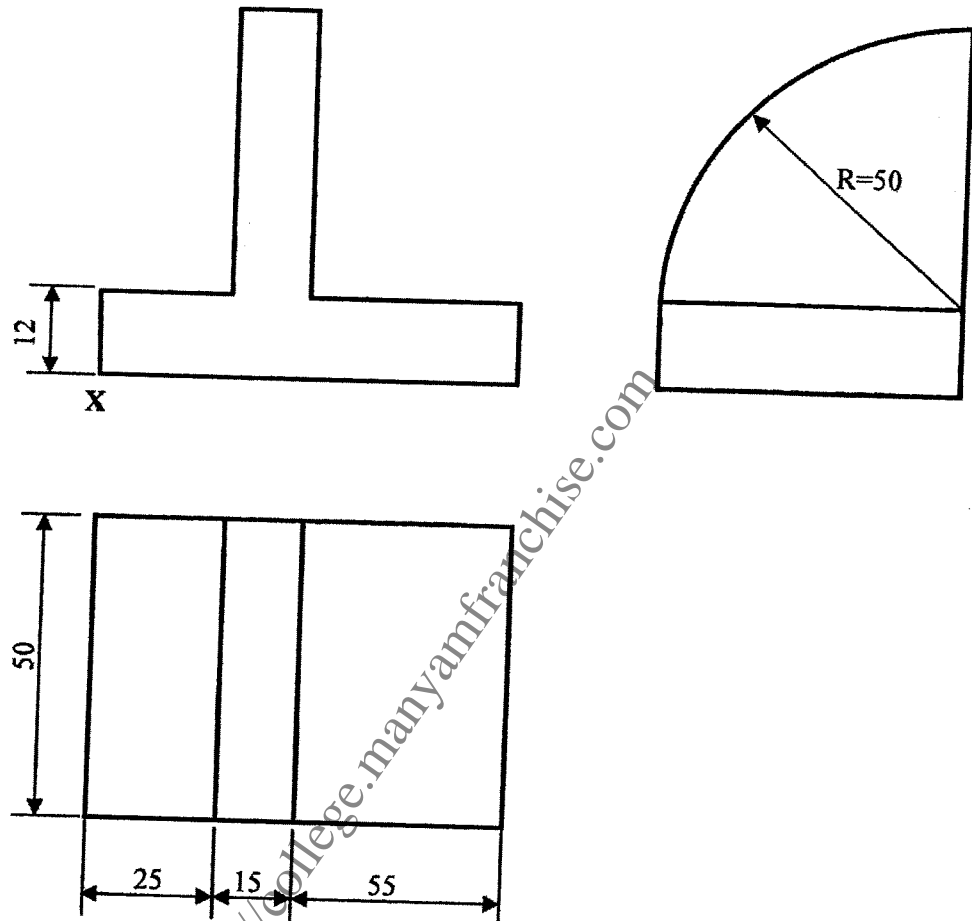

Fig. 3
6. Figure 3 shows orthographic views of a shaped object. To a scale of 1:1, draw an isometric view of the object with X as the lowest point.